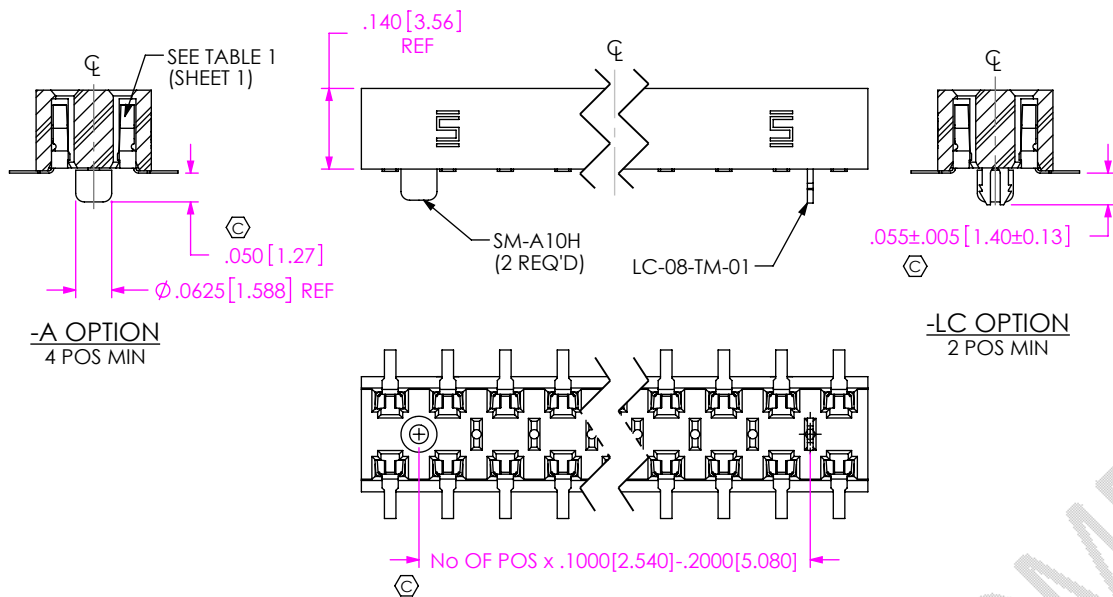

FIG 6
- A: ALIGNMENT PIN (N/A ON -PE & -TE, SEE FIG 6 & 7 SHT 2) (-4 POS MIN)
- LC: LOCKING CLIP (N/A ON -TE, SEE FIG 6 & 7 SHT 2)